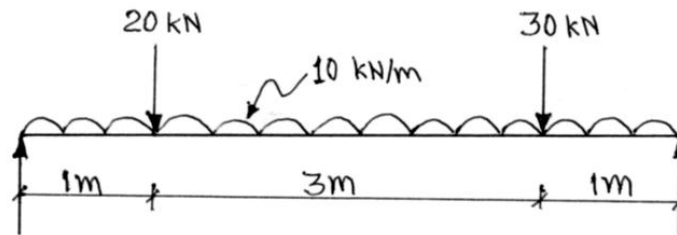

FIG. 1 Q.3(a)
- Q.3** (a) Draw shear force and bending moment diagram for the beam shown in Fig.1 Find maximum bending moment also. **07**